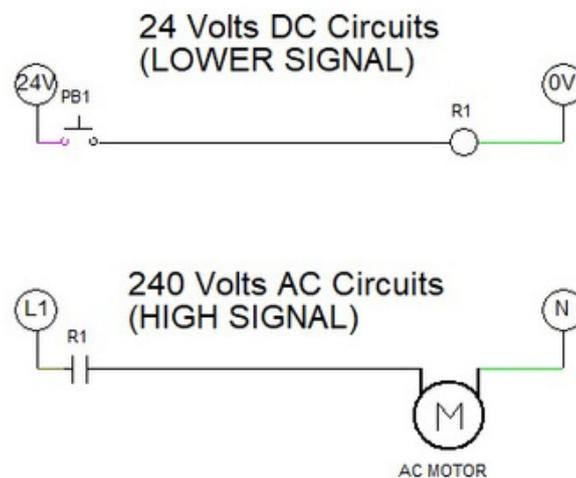

Figure 1.3 Before the push button is pressed
- Figure 1.3 illustrates the principle. When a current flows through the coil of wire a magnetic field is produced. This pulls a movable arm that forces the contact to open or close.